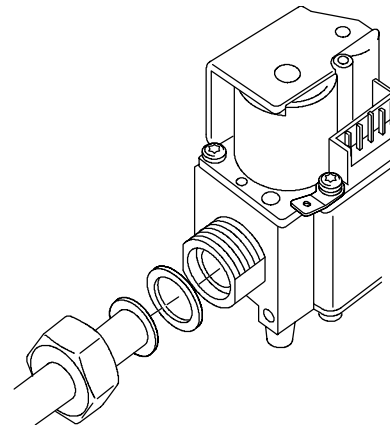

Fig. 4. External thread connection with nut and flat sealing ring
- With $\frac{1}{2}$ " nut and flat sealing ring for pipe 14 mm (see fig 4.)**
- With $\frac{1}{2}$ " nut and flat sealing ring for pipe 15 mm (see fig 4.)**
- ⑤ **With 3/4" nut and flat sealing ring for pipe 15 mm (see fig 4.)**
- ⑥ **With 3/4" nut and flat sealing ring for pipe 18 mm (see fig 4.)**